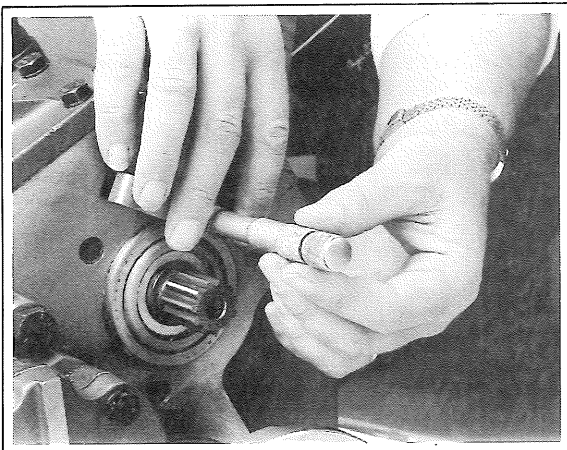

Fig. 20
1. Press the bearing outer cup firmly into position and measure between the face of the gearcase and the top of the bearing outer as shown in Fig. 20.